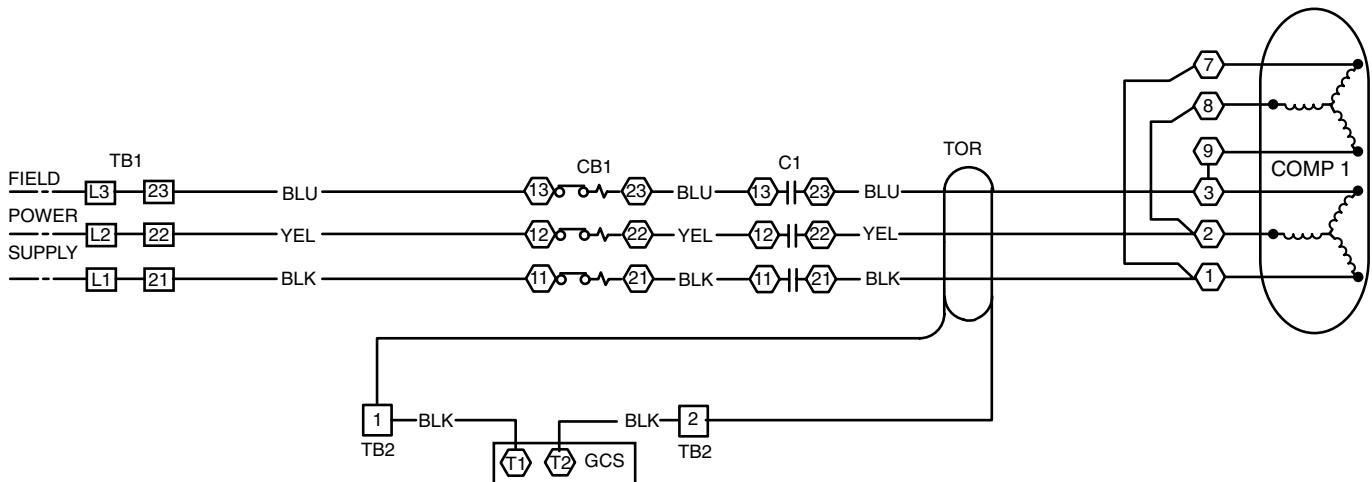

Fig. 3 — 30HW Toroid Field Wiring, Single Contactor, Temperature Controller
2. If unit has a single contactor (3 compressor wires), only one of the current toroids (Table 1, Item 2) is used. Place all 3 compressor wires through the toroid. Connect toroid leads to TB2-1 and TB2-2. See Fig. 3.